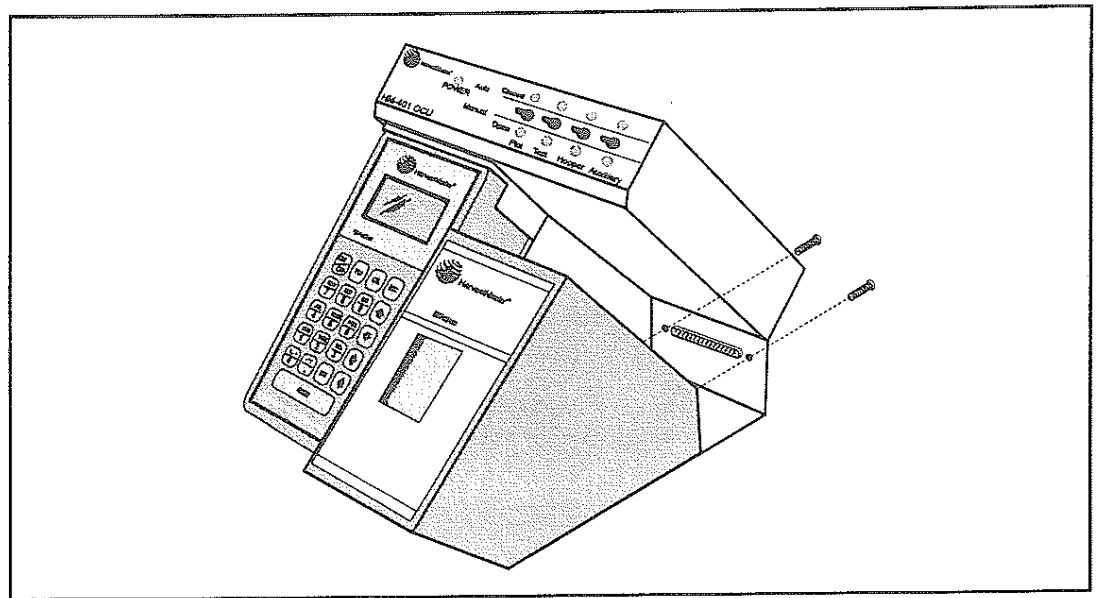

Figure 2-4
1. Set the FieldPrinter on the right side of the console and slide it back until it mates with the 25-pin sub-D connector (see Figure 2-4).
2. Install two #6-32 x 3/8" screws to secure the FieldPrinter to the console as shown in Figure 2-4.